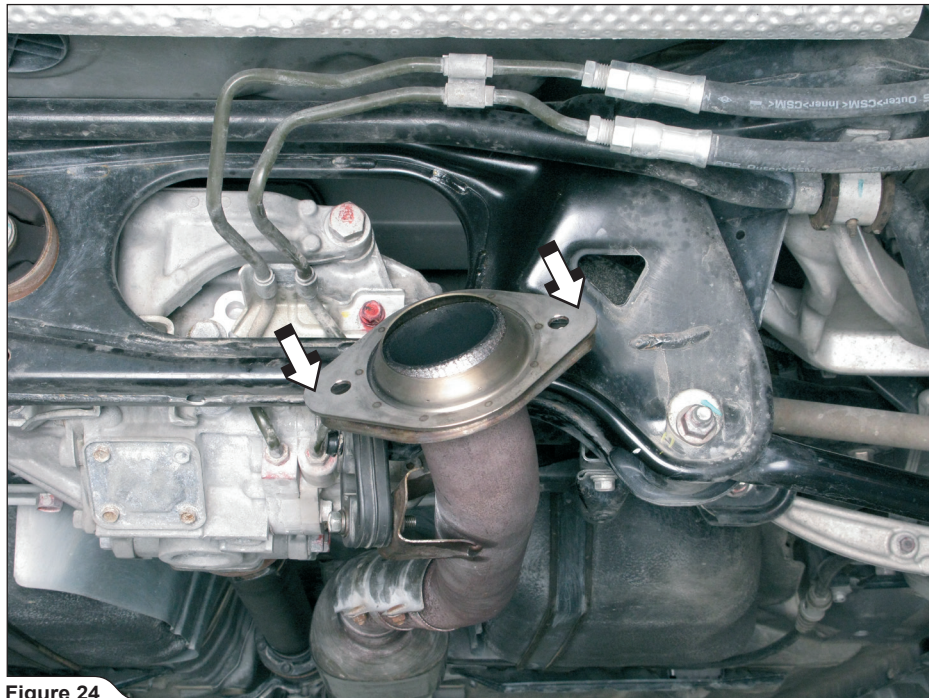

Figure 24
13. **For Slip-On only:** install the gasket adapter (leave the stock gasket on the middle pipe's outlet!) from Akrapovič installation kit, onto the stock middle pipe's outlet (**Figure 24**).